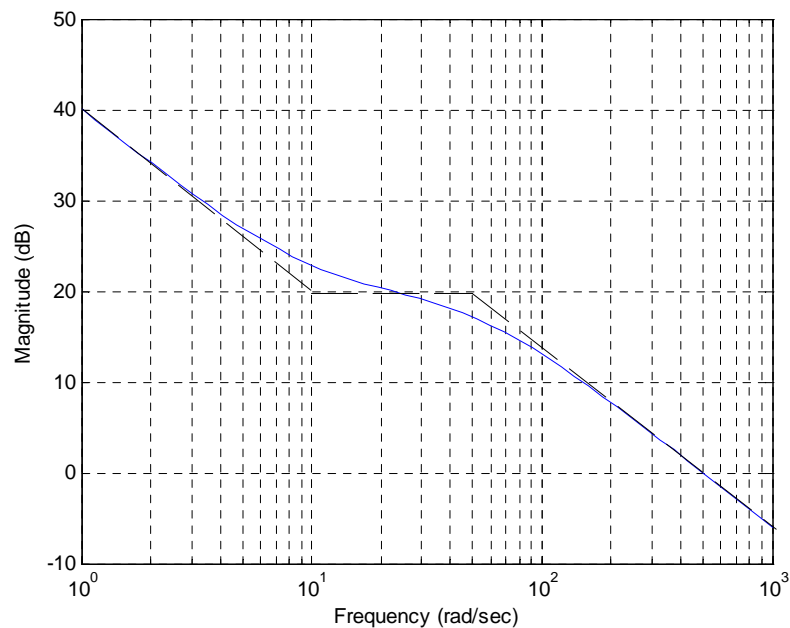

Figure 8.1
8.2 The magnitude response plot and its asymptotes of a minimum phase system are shown in Figure 8.1. Which of the following transfer functions best approximates the frequency response of the system? Explain your answer.